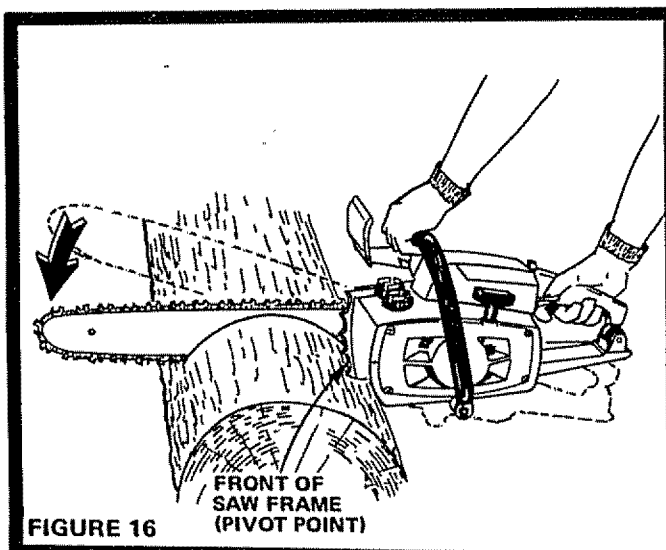

FIGURE 16
- ⚠ USE A FIRM GRIP (THUMBS OPPOSING FINGERS) WITH LEFT HAND ON FRONT HANDLE AND RIGHT HAND ON REAR HANDLE. KEEP A SECURE BALANCED FOOTING TO THE LEFT OF THE SAW AND DON'T OVERREACH (FIG. 16).
2. Start cutting with the front of Saw Frame against the log or tree and pivot as you cut so that the Bar Nose enters the cut last (Fig. 16).